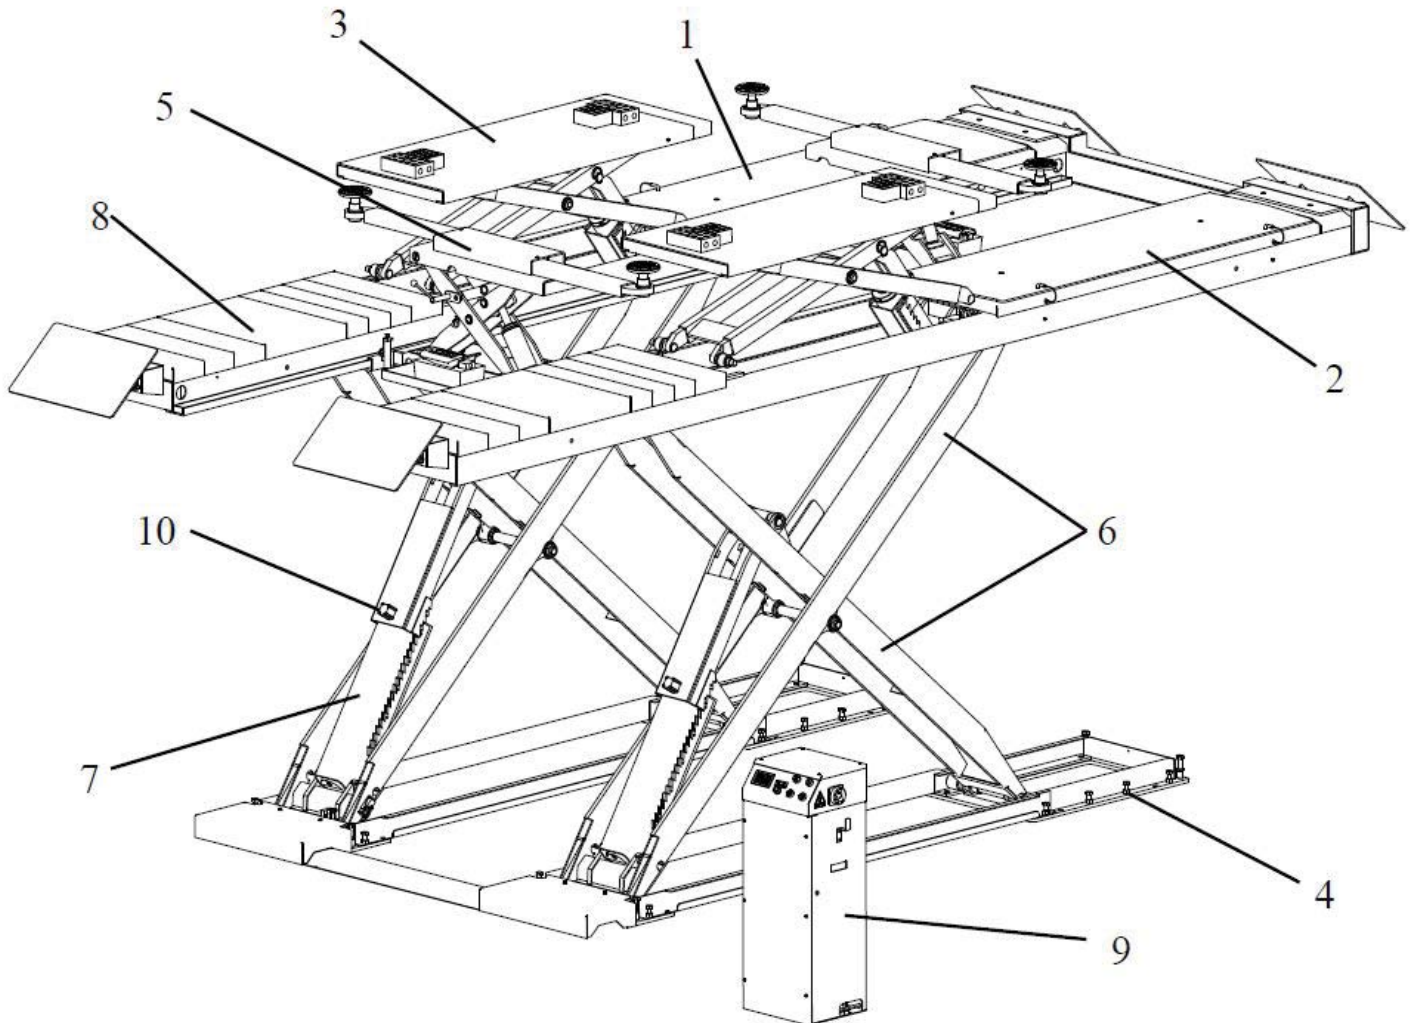

Figure 2 – Lift
## 4.1 Lift Description (Ref. Figure 2)
This chapter describes the lift's principal elements, allowing the user to be familiar with the machine. As shown in figure 2, the lift is composed of two runways: P1(1) and P2 (2) with two wheel free jacks (3), anchored to the ground by means of its base (4). At a special request, two jack beam (5) can be supplied and operated by an air-hydraulic pedal pump.